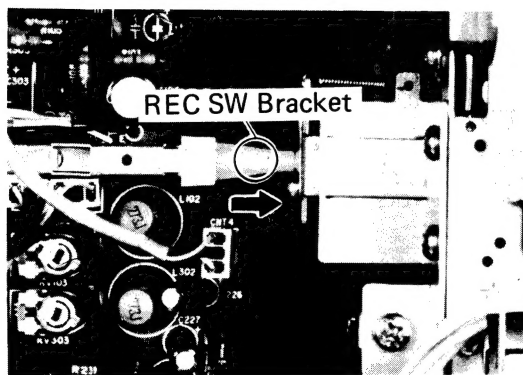

Fig. 10
- (3) When re-assembling the chassis if Rec S/W Bracket is in touched with DECK AY, pull out the Rec S/W Bracket in direction of an arrow. (See Fig. 10)